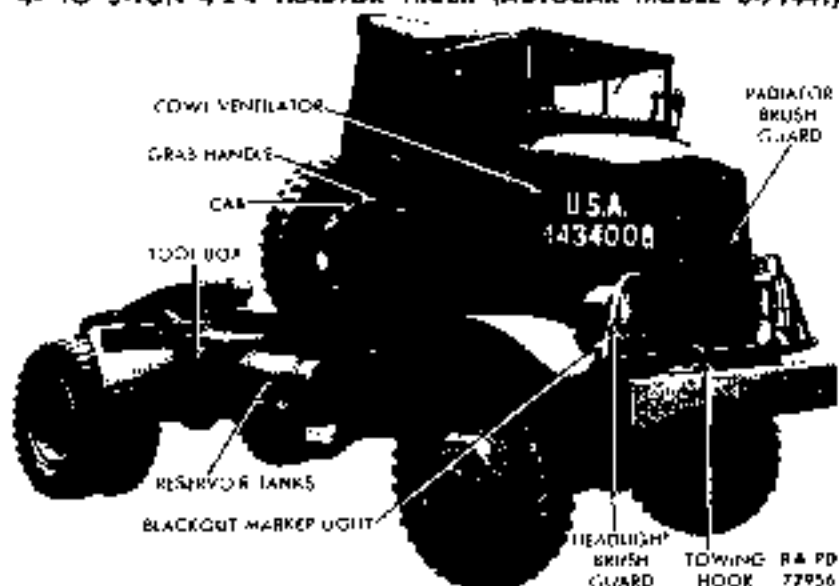

Figure 1 - Truck Right Front
2. DESCRIPTION (figs. 1 and 2).